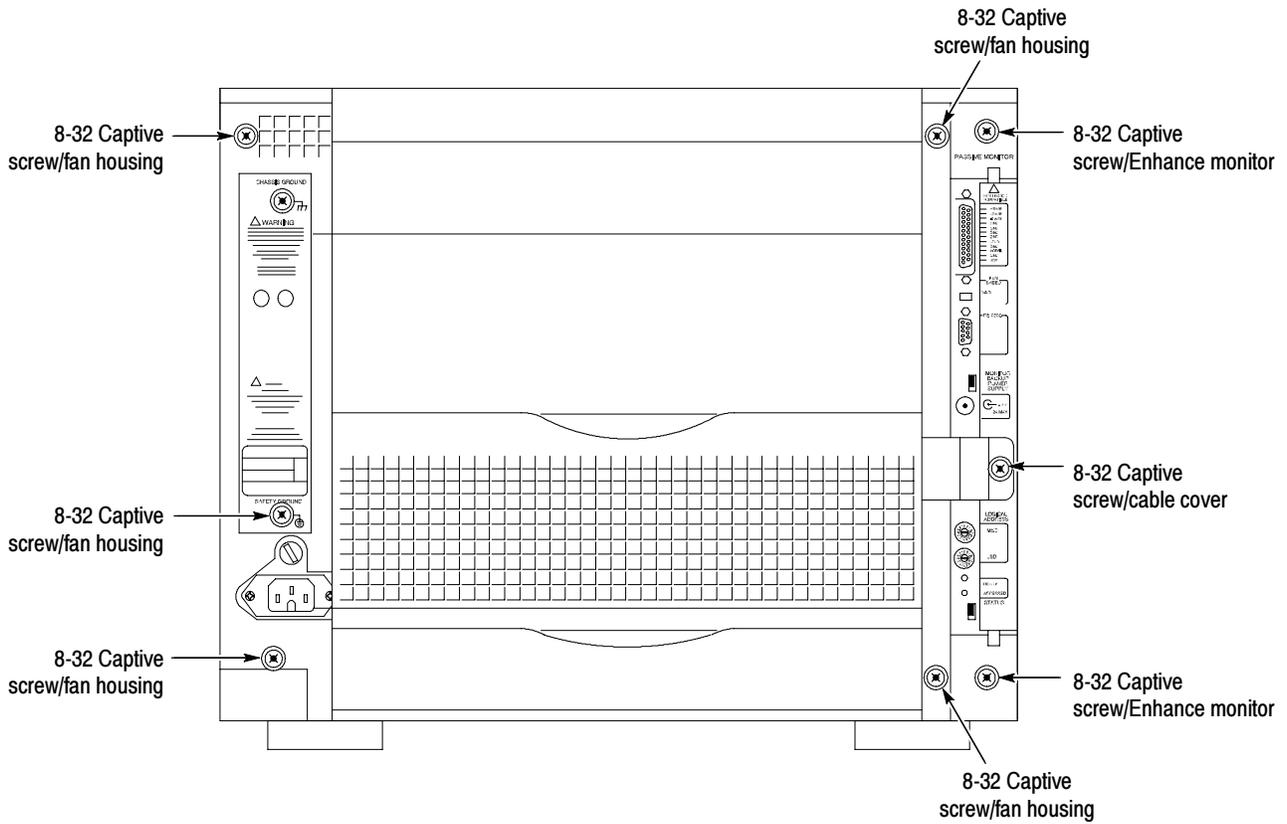

Figure 9: Location of blower assembly screws
To remove the blower assembly, refer to Figures 9, 10, and 11 while performing the following steps:
1. From the back of the chassis, loosen the five captive screws including the safety ground (refer to Figure 9 for the screw locations).